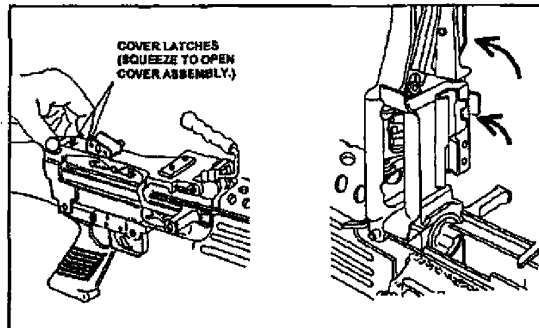

Figure 071-312-4027-2. Checking the feed tray, receiver, and chamber area
5. Attach the ammunition box with linked 5.56-mm ammunition to the underside of the receiver. To do so, align the box latch with the dovetail on the receiver (figure 071-312-4027-3). Pull outward on the ammunition box to make sure the aligning box latch engages.